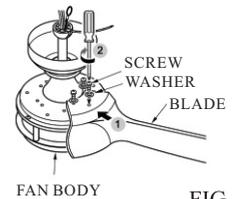

FIG.3
1. Attach each blade assembly to the fan body using the blade screws. Tighten them securely (see Fig.3)
Remove the battery cover on the back of the transmitter and insert the battery provided. Make sure the "+" "-" sign is correct. (FIG.3)